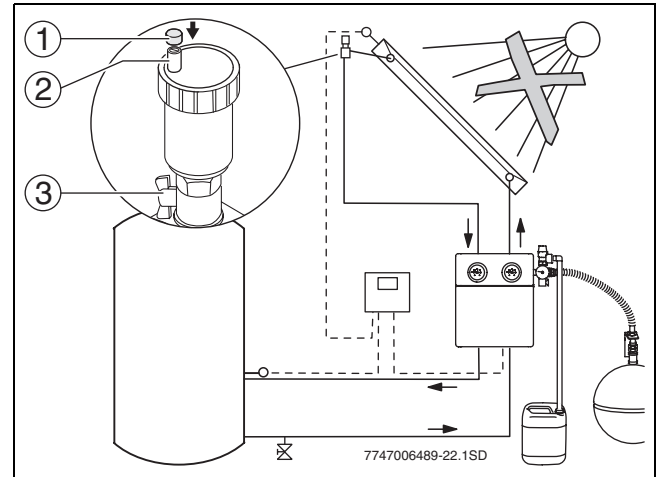

Fig. 15 Opening the air vent
- ▶ Close the right-hand ball valve (2) on the solar heating station and the ball valve on the air vent (→ Fig. 15, (3)).
- ▶ Close the fill and drain valves (3) in the solar heating station.